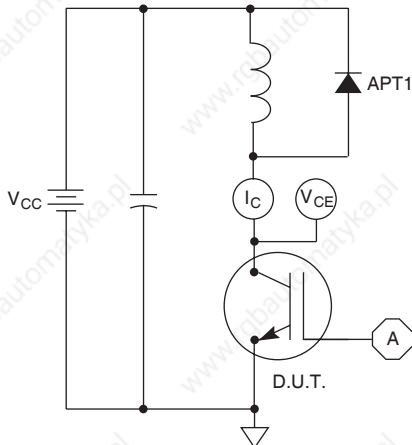

Figure 21, Inductive Switching Test Circuit
⑤  $E_{on2}$  is the clamped inductive turn-on energy that includes a commutating diode reverse recovery current in the IGBT turn-on switching loss. (See Figures 21, 22)
⑥  $E_{off}$  is the clamped inductive turn-off energy measured in accordance with JEDEC standard JESD24-1. (See Figures 21, 23)
⑦  $R_G$  is external gate resistance, not including  $R_{Gint}$  nor gate driver impedance. (MIC4452)